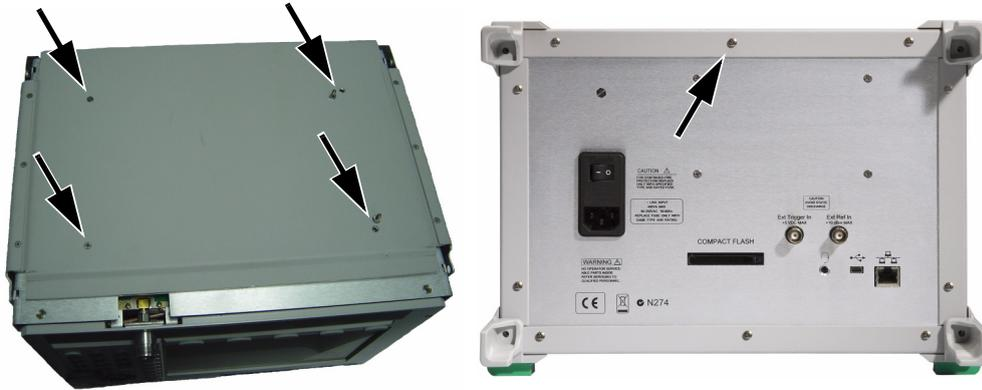

Figure 4-7. Screws that Hold Chassis within Outer Enclosure
2. Remove the 4 screws from the bottom of the outer enclosure and the 10 screws from the back panel, as shown in Figure 4-7.